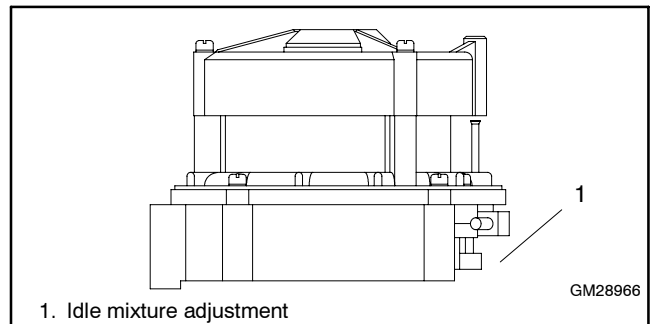

Figure 7-47 100/125 kW with Nolff 475 Style Fuel Mixer
- c. **100/125 kW (with single fuel) generator sets.** Nolff N16-475-5A and N16-475-9A style gas mixers used on 100 kW 8.1 L GM and 125 kW 8.1 L GM turbocharged engines. See Figure 7-47. This gas mixer style does not have a fuel mixture adjustment.
- Adjust the idle mixture adjustment (Figure 7-47) to obtain a no load oxygen sensor voltage reading within specifications.
- h. Adjust the idle mixture adjustment (Figure 7-47) to obtain a no-load oxygen sensor voltage reading within specifications. See Figure 7-40.